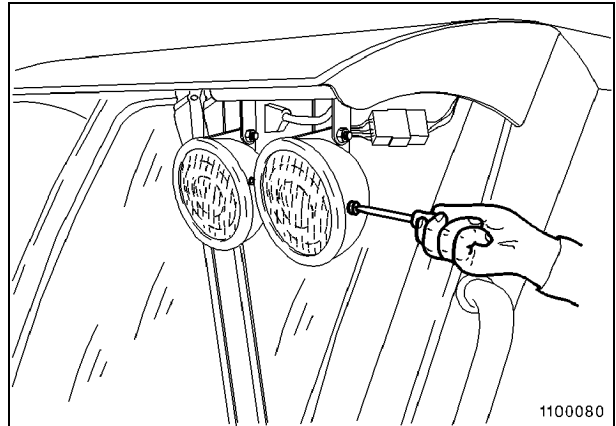

Fig. 8
- Remove the lamp body from the floodlamp on the cab roof (Fig. 8).